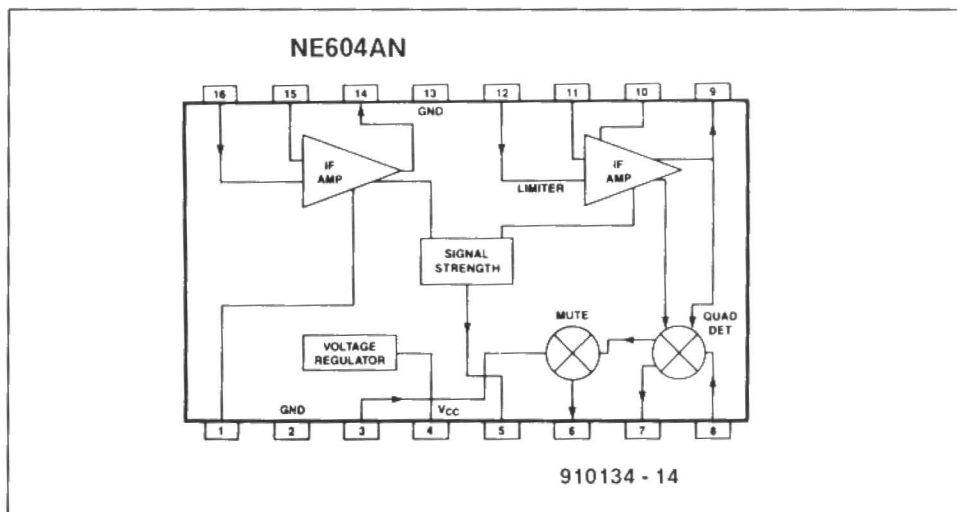

Fig. 4. Block diagram of the NE604A FM IF system (courtesy Signetics).
As already mentioned, the NE604 (IC2) combines a number of functions in this circuit. The block diagram in Fig. 4 tells the whole story. A 10.7-MHz ceramic filter, FL1, is inserted between the output of the first IF amplifier and the limiter input of the second IF amplifier on board the NE604. The quadrature (FM) detector is connected to a ready-made 10.7-MHz inductor, L15, via coupling capacitors C1 and C2. Pin 7 of the NE604 supplies the demodulated signal ahead of the mute circuit (see the block diagram). This unmuted signal may be used for AFSK decoders and other equipment (packet radio TNC) that must always work, irrespective of the set mute level. The signal is brought out to a jumper block marked D, which allows ready connection to a screened cable.